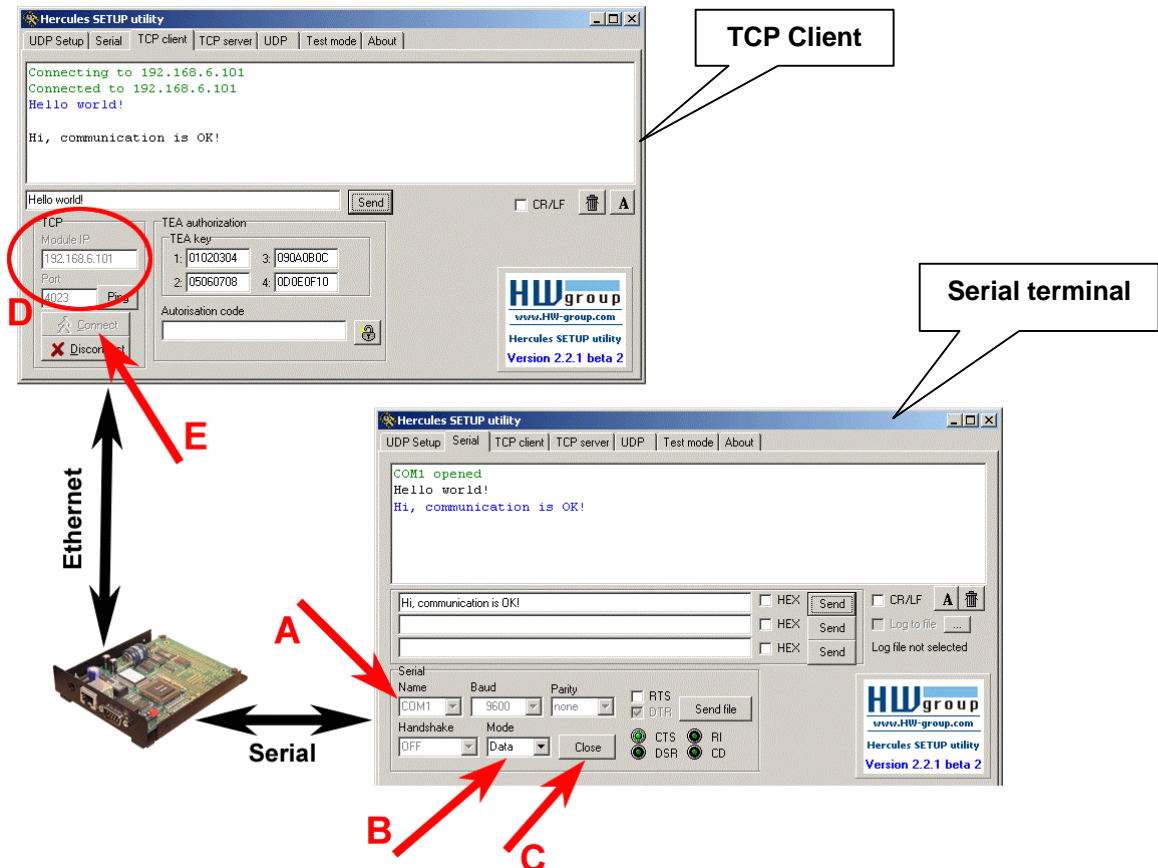

Figure 7: Communication test setup
- A - Serial: Name (e.g. COM1), 9600 Baud 8N1 – no handshake (*Figure 7 - detail A*)
- B - Mode: Data (*Figure 7 - detail B*)
- C - Click the Open button (*Figure 7 - detail C*)
- D - TCP: Modul IP and Port of your device (*Figure 7 - detail D*)
- E - Click the Connect button (*Figure 7 - detail E*)